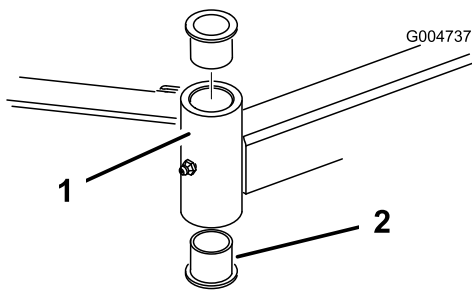

Figure 21
4. Insert a pin punch into the top or bottom of the mounting tube and drive the bushing out of the tube (Figure 21). Also, drive the other bushing out of the tube. Clean the inside of the tubes to remove dirt.